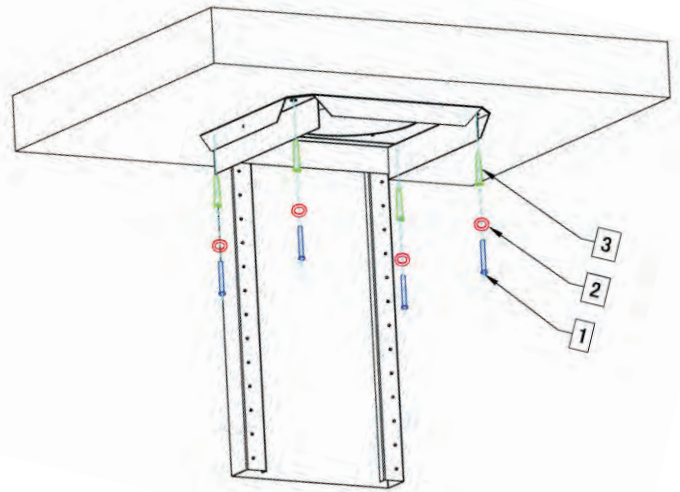

fig.1
**Step one:** Locate the center above the stove where the hood is to be installed. Ensure that the bracket will be secured to solid wood backing. Install the duct work in the center of the bracket. Secure the upper end of the bracket to the ceiling as shown in fig.1.